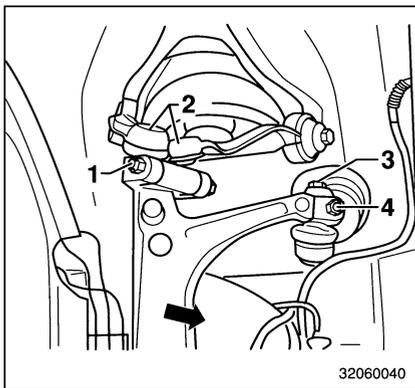

Figure 4 Front suspension strut arm
- Unscrew nut (Figure 4/1), remove hexagon screw and pull both wishbones upwards (Figure 4/2).
Do not unscrew bolts (Figure 4/3 + 4).